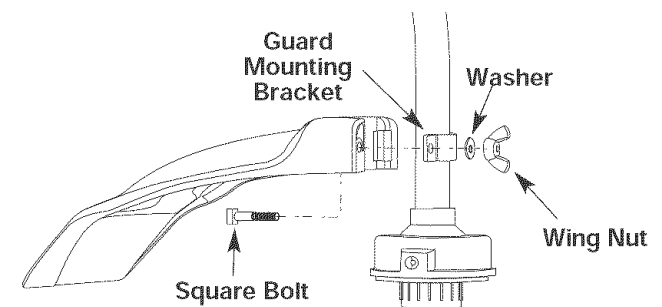

Fig. 5
2. From inside the cutting attachment shield, push the square bolt through the hole until the threaded end protrudes through the guard mounting bracket (Fig. 5).